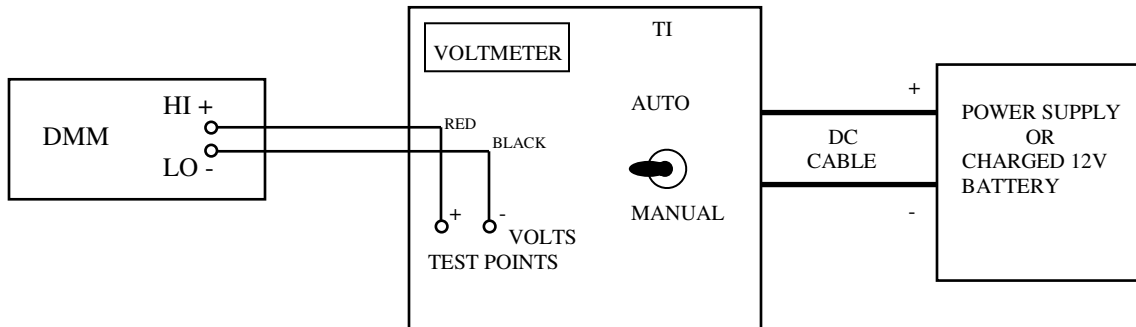

Figure 1 Voltmeter Test Setup
Table 1 Verification Description (FIG. 1, 2, 3)
4.1.3 Connect the DMM as shown in Figure 1.